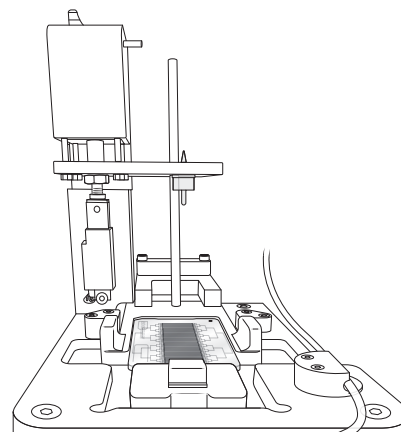

Fig. 22. Placing the slide station assembly into the Genesis System.
- The slide station assembly should be pushed all the way back until its vertical arms (finger holds) meet the clamping tabs (stoppers) on the Genesis System lane (Figure 22)